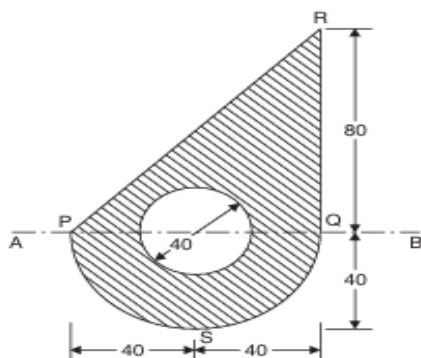

Fig. 1
- (c) Find moment of inertia of the shaded area shown in the Fig. 1 about the axis AB. **07**